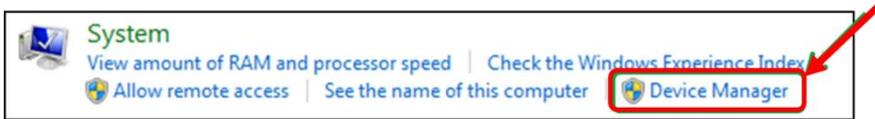

Fig. 14 System window.
- Navigate through System and security, System to Device manager (Fig. 14).